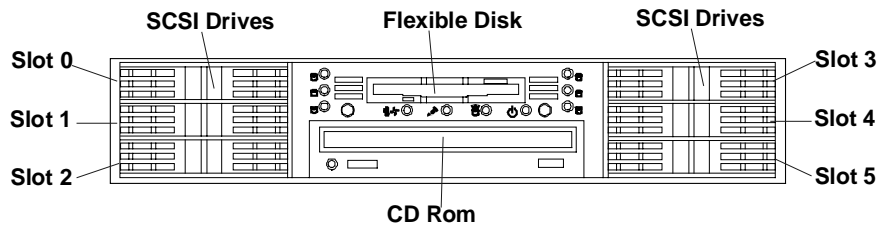

Figure 3-1. HP Netserver Mass Storage Drives
- ◇ The Netserver may have up to 6 Hot Swap SCSI hard disk drives (HDD). A flexible disk drive and CD-ROM drive are standard on all models of the HP Netserver LP 2000r. See Figure 3-1.
- ◇ The SCSI drives in the Hot Swap slots are automatically assigned SCSI addresses according to their drive slot location—not on SCSI addresses you may set (see Figure 3-1). This is also the case if you are using a RAID controller board. Do not set SCSI ID software settings or jumpers on the SCSI drive’s controller board.